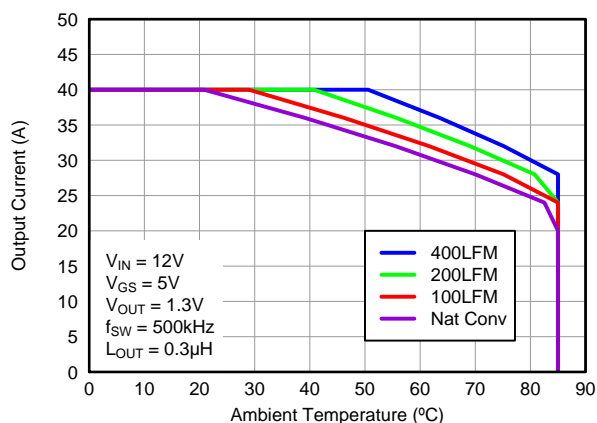
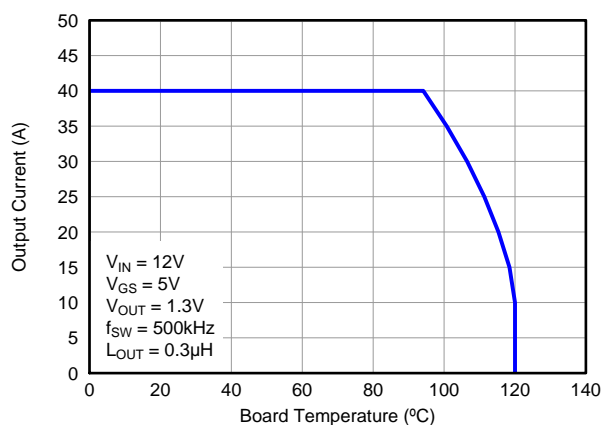

Figure 3. Safe Operating Area – PCB Vertical Mount⁽¹⁾
Figure 5. Typical Safe Operating Area⁽¹⁾
The SOA curves in the CSD87350Q5D data sheet provides guidance on the temperature boundaries within an operating system by incorporating the thermal resistance and system power loss. Figure 3 to Figure 5 outline the temperature and airflow conditions required for a given load current. The area under the curve dictates the safe operating area. All the curves are based on measurements made on a PCB design with dimensions of 4" (W) x 3.5" (L) x 0.062" (T) and 6 copper layers of 1 oz. copper thickness